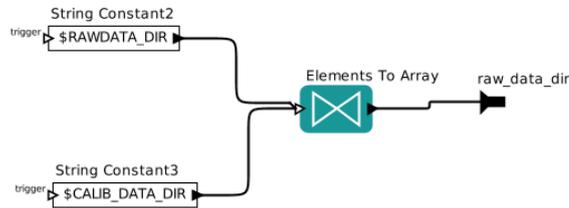

Figure 2: Directory preparation for the DataOrganizer.
- Now we start putting actors which represent the real workflow. The first thing is to combine the calibration directory and the input directory in a single input that will be fed into the data organisation. For that we put two `StringConstant` actors with the values `$RAWDATA_DIR` and `$CALIB_DATA_DIR`. Make sure that the `firingCountLimit` parameter is set to 1 in both cases. Then we connect the output of these two actors to an `ElementsToArray` actor. Figure 2 shows the result of that.